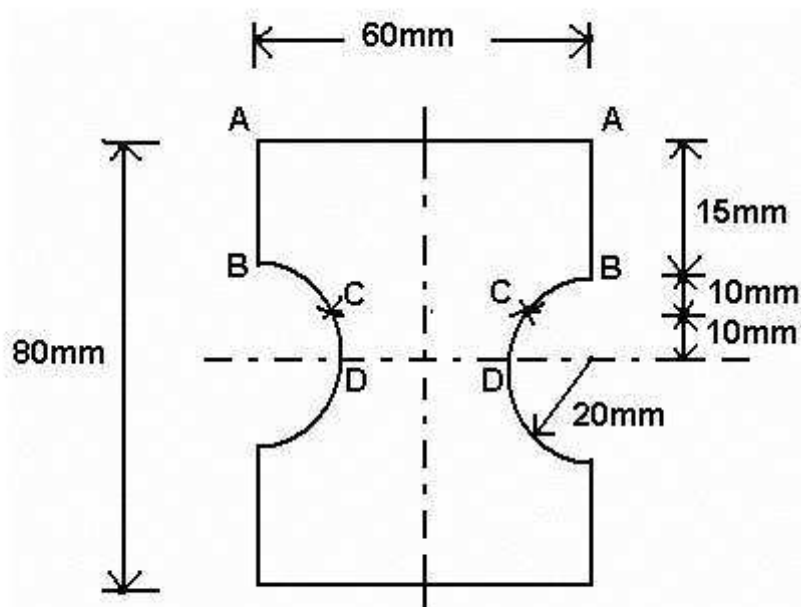

Figure 4
4. For a section shown in figure 4. determine the average shearing stresses at A, B, C and D for a shearing force of 23kN. Also sketch the shear stress distribution across the section. [16]